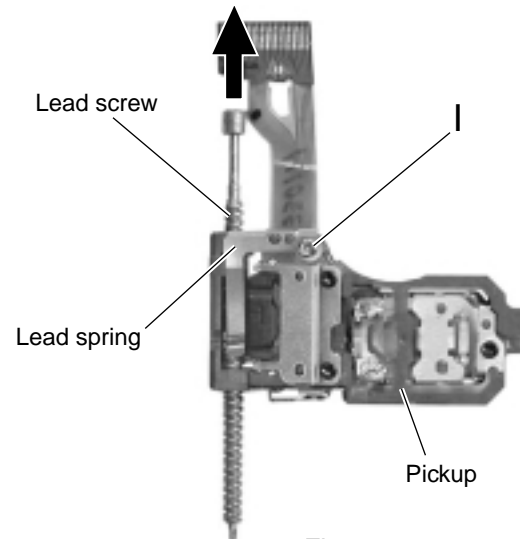

Fig.10
■ Removing the pickup (See Fig.10 and 11)